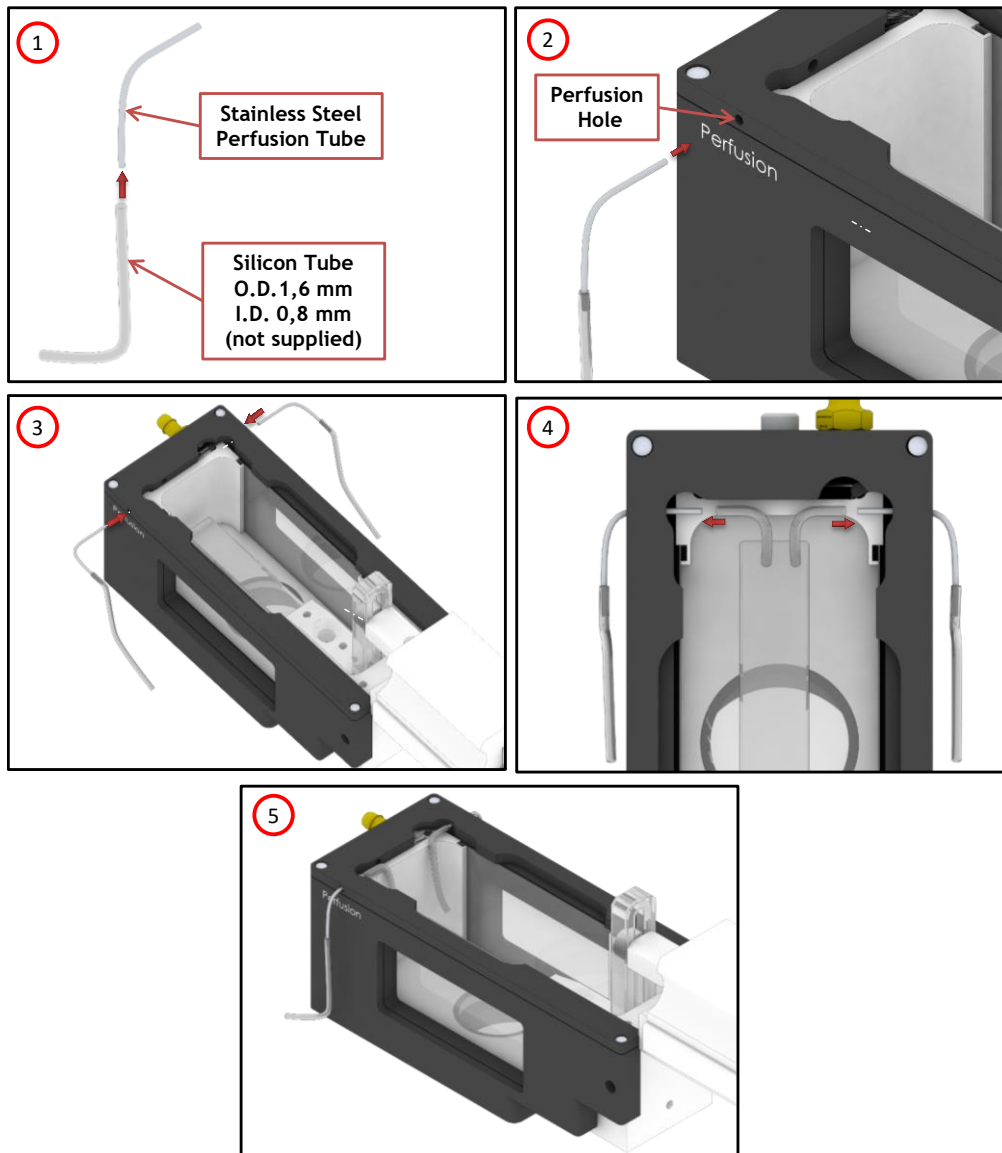

Figure 4. Working with Perfusion
6. Use the supplied Stainless Steel Perfusion Tubes. Attach a Silicon tubes O.D. 1,6mm I.D. 0,8mm (not supplied) to the Stainless Steel Perfusion Tubes (see image 1 in Figure 4).
7. Insert the Stainless Steel Perfusion Tubes in the perfusion holes (see images 2 and 3 in Figure 4).
Insert a Silicon tubes O.D. 1,6mm I.D. 0,8mm (not supplied) to the free end of the Stainless Steel Perfusion Tubes (see image 4 and 5 in Figure 4).